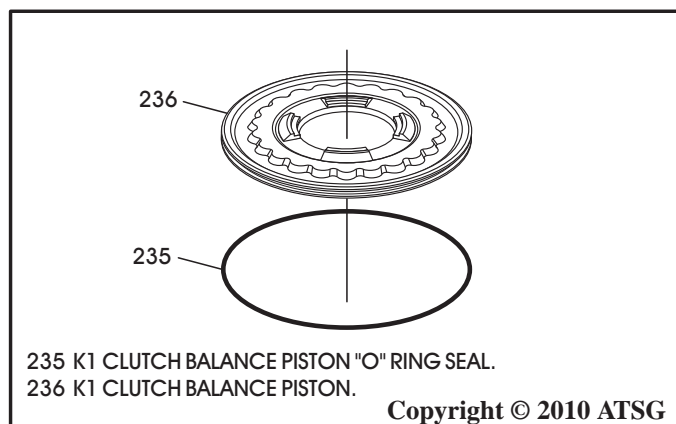

Figure 124
5. Install new "O" ring seal into groove of the K1 clutch balance piston, as shown in Figure 124, and lube with small amount of Trans-Jel®.